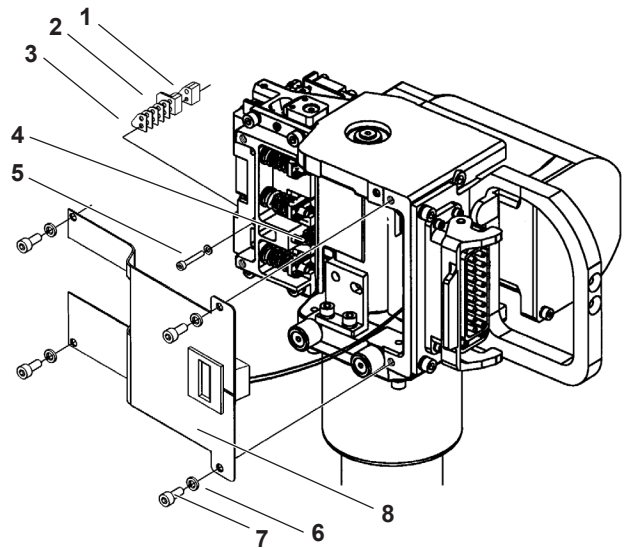

Figure 4-6: Strap Width Guide
1. Remove the Sealer Cover (Figure 4-6: 8) by removing the four Socket Head Cap Screws (Figure 4-6: 7) that secure the cover to the sealer housing.
NOTE: The mounting screw (Figure 4-6: 5) also contains the spare shims (Figure 4-6: 3). Use caution when removing the guide to not lose any of the spare shims.
2. Release the spring tension from the anvil pivot assembly by unhooking the exposed end of the Extension Spring (Figure 4-6: 4) from the pin mount in the gripper cover.